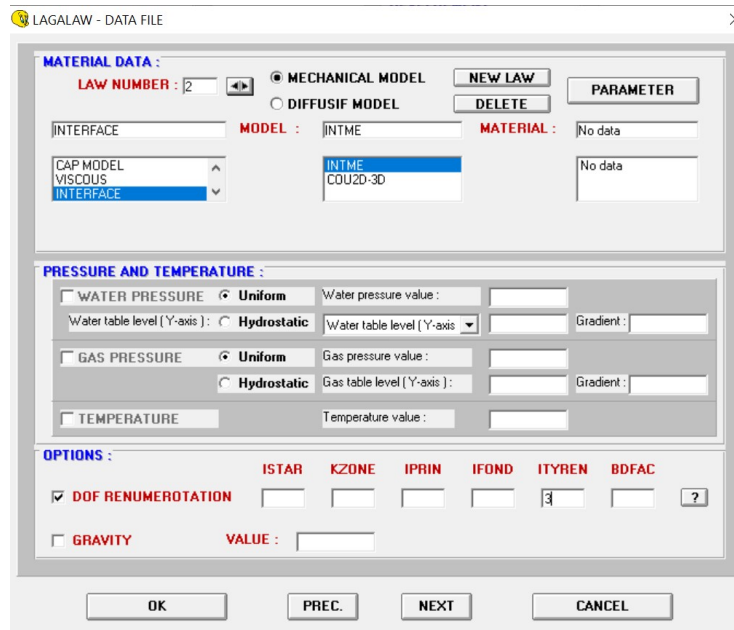

Figure 6.7 Speed up simulation
3. One bonus setting is that: check box **DOF RENUMBEROTATION** and set **ITYREN** as 3 (others just left blank), shown in Fig. 6.7. In this way it can speed up the simulation by renumbering the metric components.